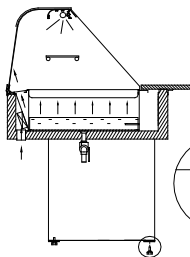

Fig.5 Removing the wooden platform
- Unpack the device and remove the wooden platform from the basis (does not concern moving devices as well as display cabinets with reservoir) Fig.5 (p.10)